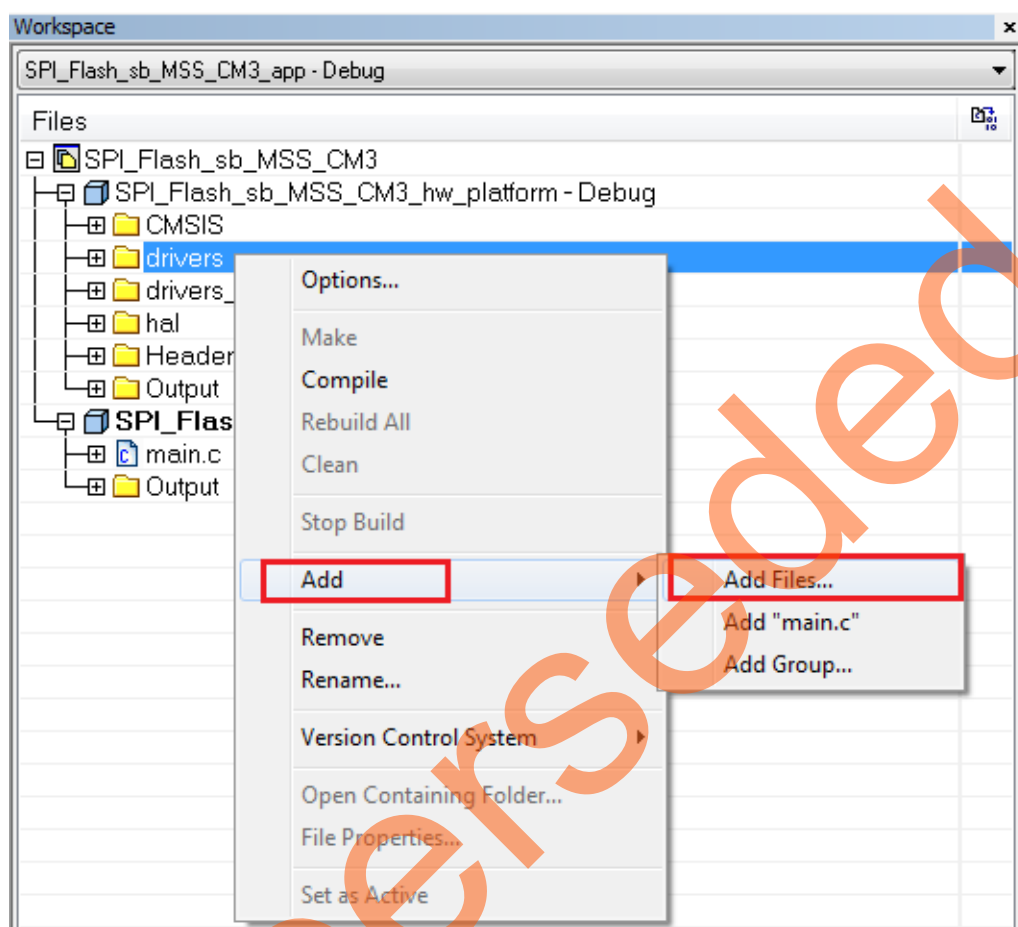

Figure 23 • IAR Workspace Window - Add winbondflash SPI Driver Files
7. Right-click and add the driver files (winbondflash.c & winbondflash.h) to the SPI\_Flash\_sb\_MSS\_CM3\_hw\_platform project in the IAR workspace, as shown in Figure 23.